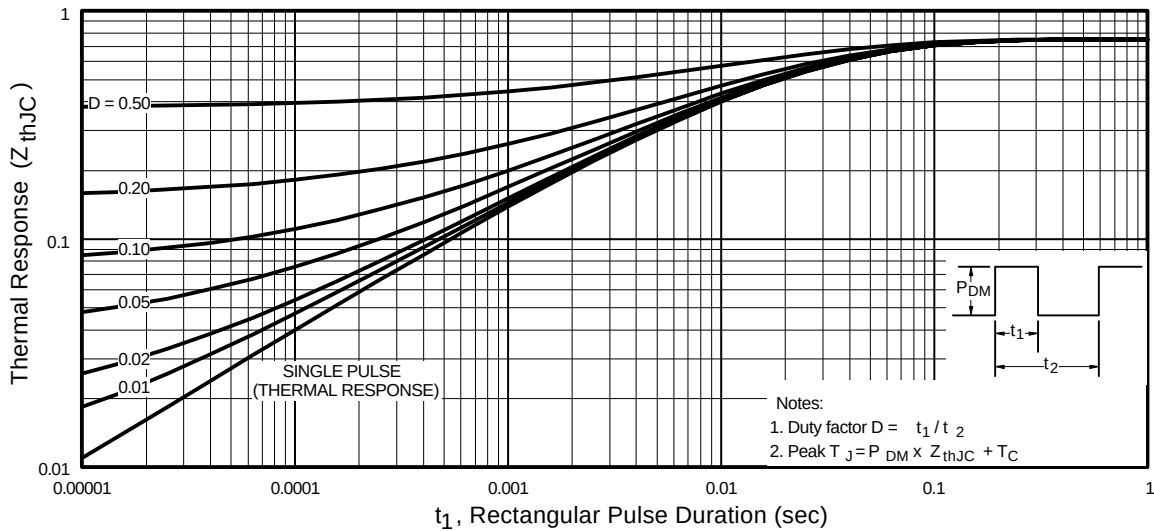

Fig 11. Maximum Effective Transient Thermal Impedance, Junction-to-Case
① Repetitive rating; pulse width limited by max. junction temperature. (See fig. 11)
② Starting $T_J = 25^\circ\text{C}$, $L = 6.8\text{mH}$